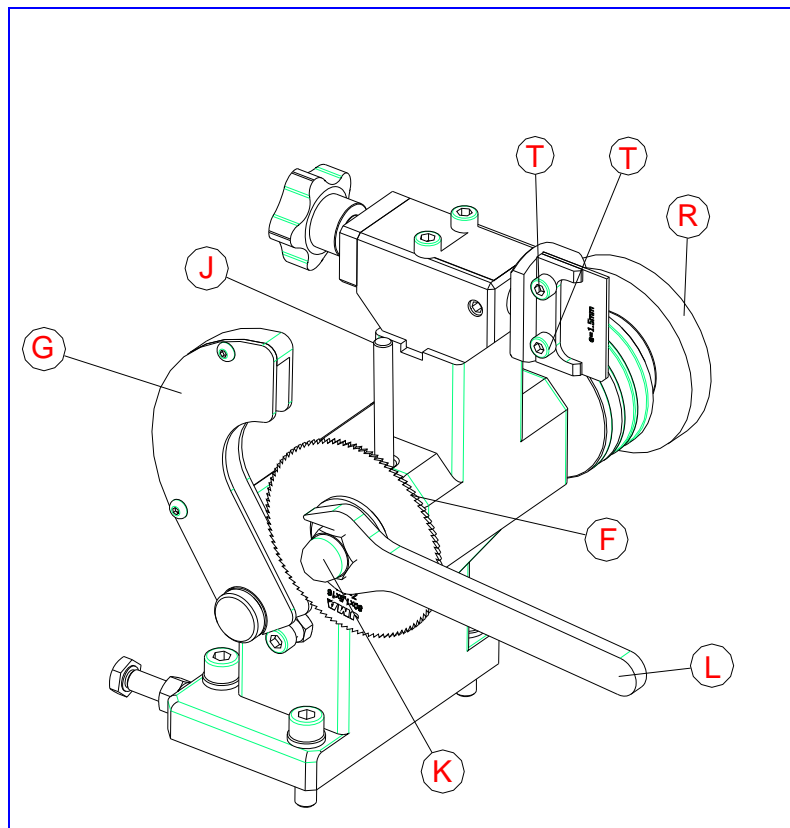

Fig.8
To change the brush: Remove the belt guard and block the cutter shaft with the help of the rod. Undo the screw (R) with the help of an allen key. Replace the brush and finally put the cutter guard back into place. See Fig.8.